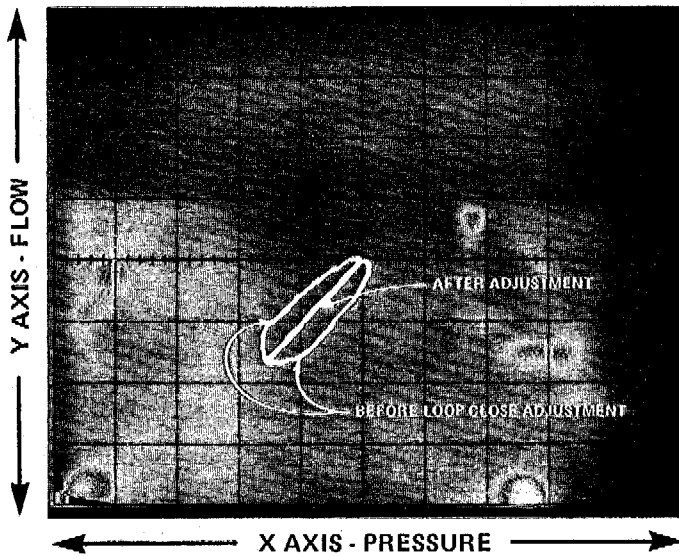

Figure 39 - Trace - Pulmonary Resistance Curve
- h. As the patient breathes, close the loop by rotating the **LOOP CLOSE** control as shown in Figure 39. The loop closes because the equation: